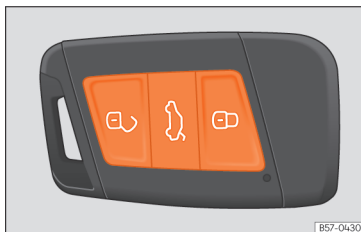

Fig. 89 Remote control key: buttons.
- Lock: press the    Fig. 89 button.